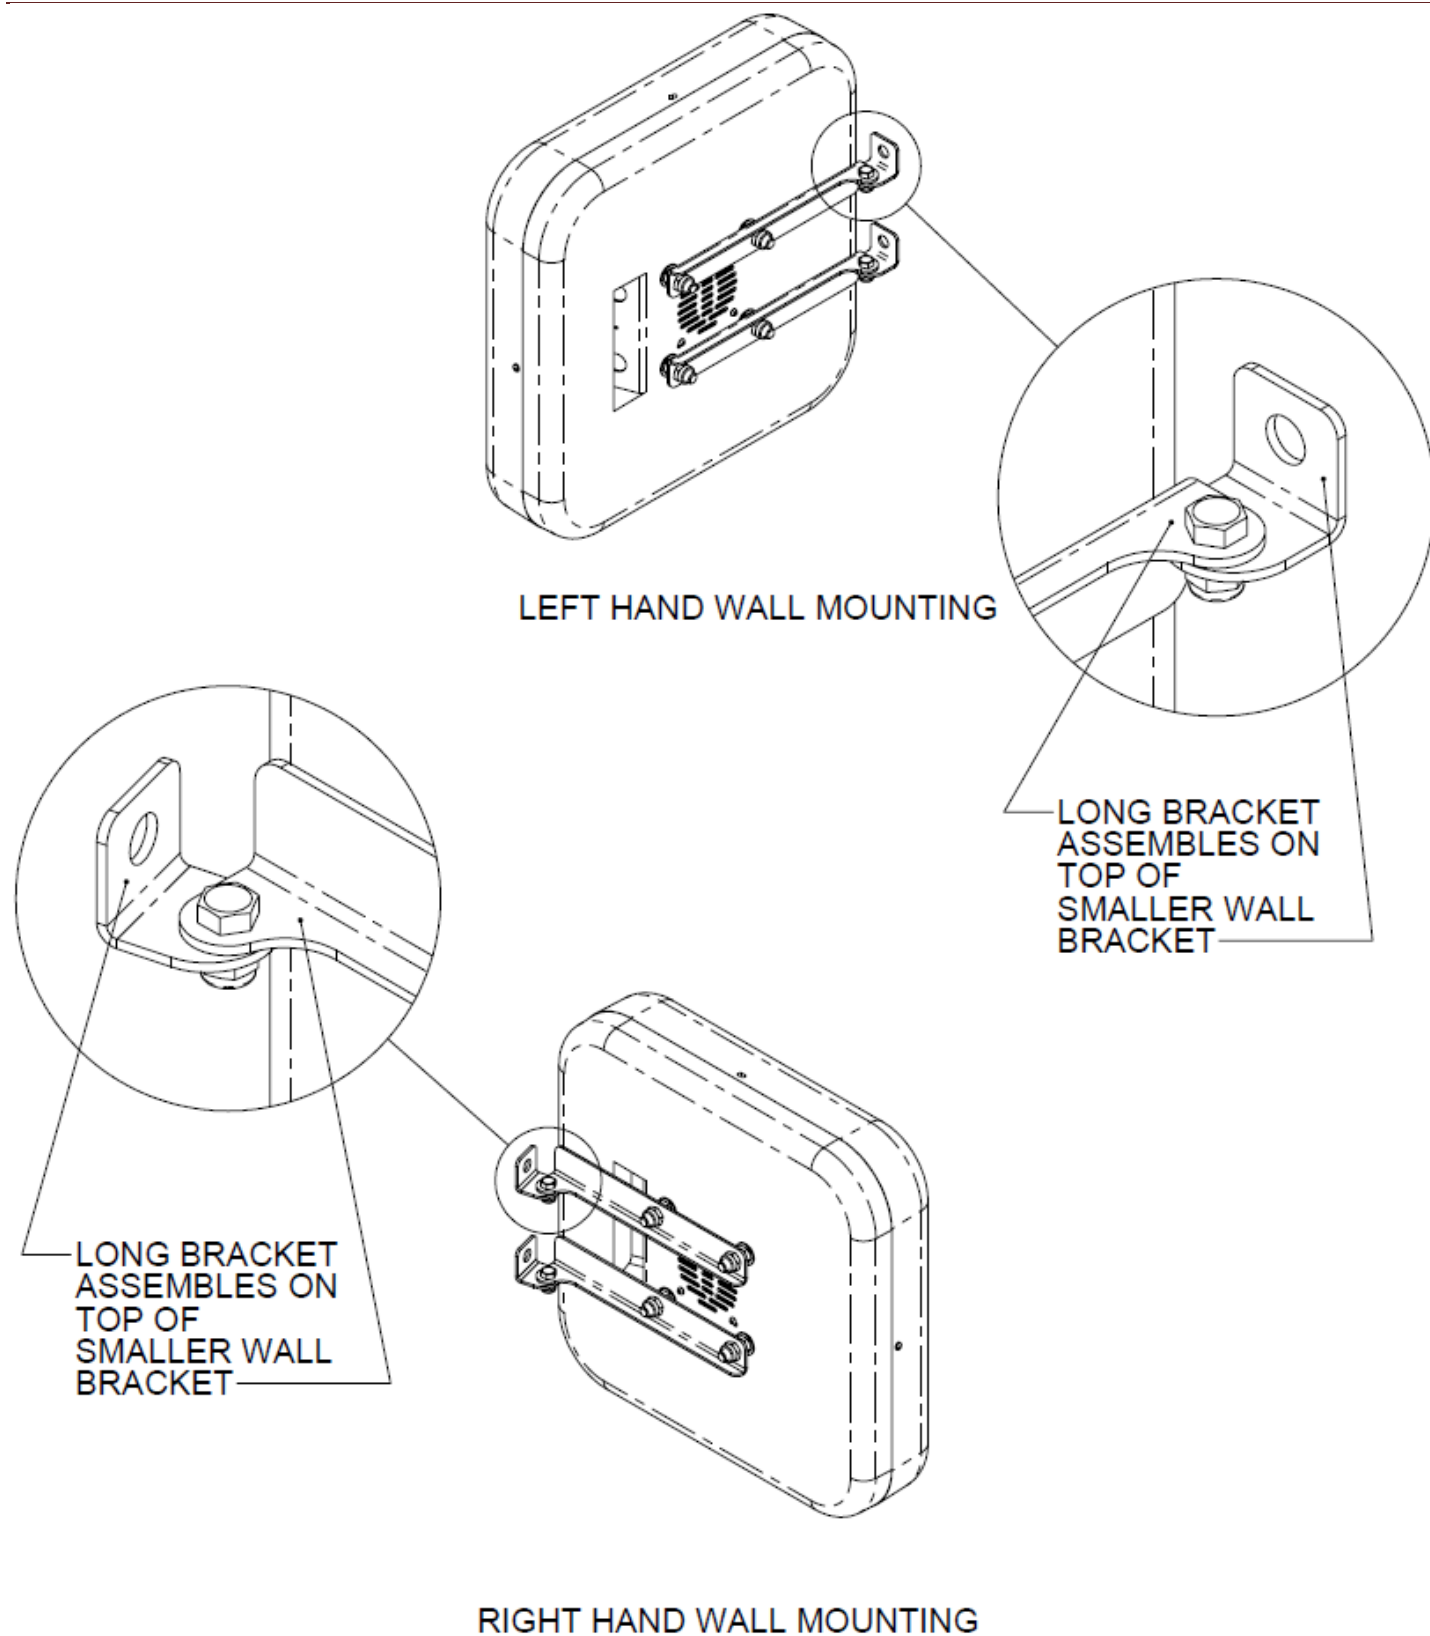

Figure 162 - Sign Wall Mount Brackets for Left and Right Wall Mounting
- The sign is built with the wall mount brackets oriented for mounting to the left wall of the wash bay. If it is necessary to mount it to the right wall, the brackets may be disassembled and flipped so that the mounting holes point in the proper direction for mounting to the right wall. When reassembling the brackets, always be sure the long brackets attached to the sign back are assembled on top of the smaller wall brackets (see Figure 162).